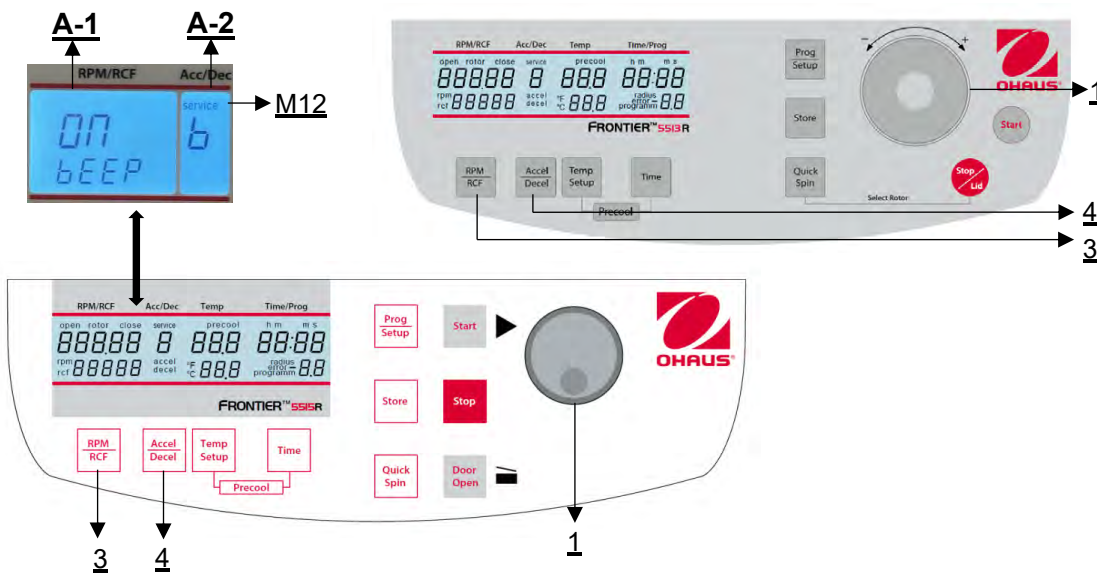

Figure 30
Proceed as described under point 4.1.1 to enter this program mode and then press the key **"Accel/Decel"** (4). In the display **"Acc/Dec"** (A-2) the word **"Service"** (M12) flashes. Now select the letter **"b"** with the touch wheel (1). As a result, in the display **"RPM | RCF"** (A-1), the word **"ON/BEEP"** appears. After pressing the key **"RPM | RCF"** (3), you can turn the keyboard sound (On) or (Off) with the touch wheel (1) (see **figure 30**).